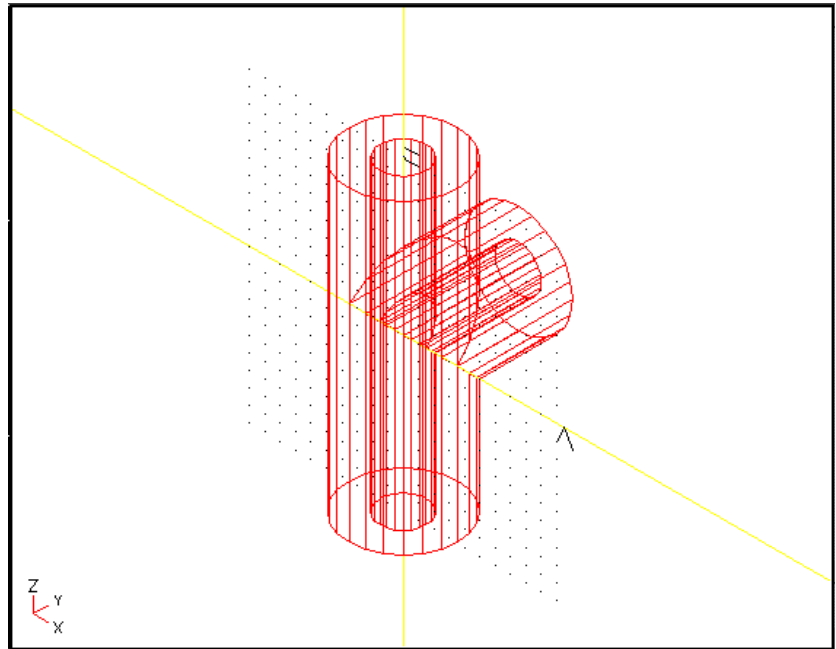

Figure 12 United Inner and Outer Cylinders
- 7 Choose **Window > Shade > 3D Wireframe** to view the inner cylinder shown in Figure 12.